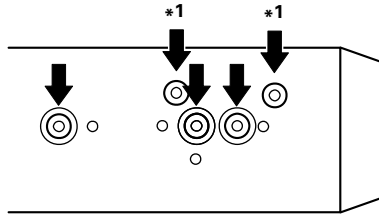
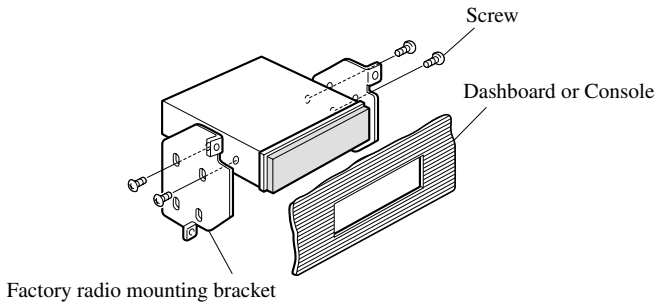

Fig. 13
Fig. 14
2. Fastening the unit to the factory radio mounting bracket. (Fig. 13) (Fig. 14)